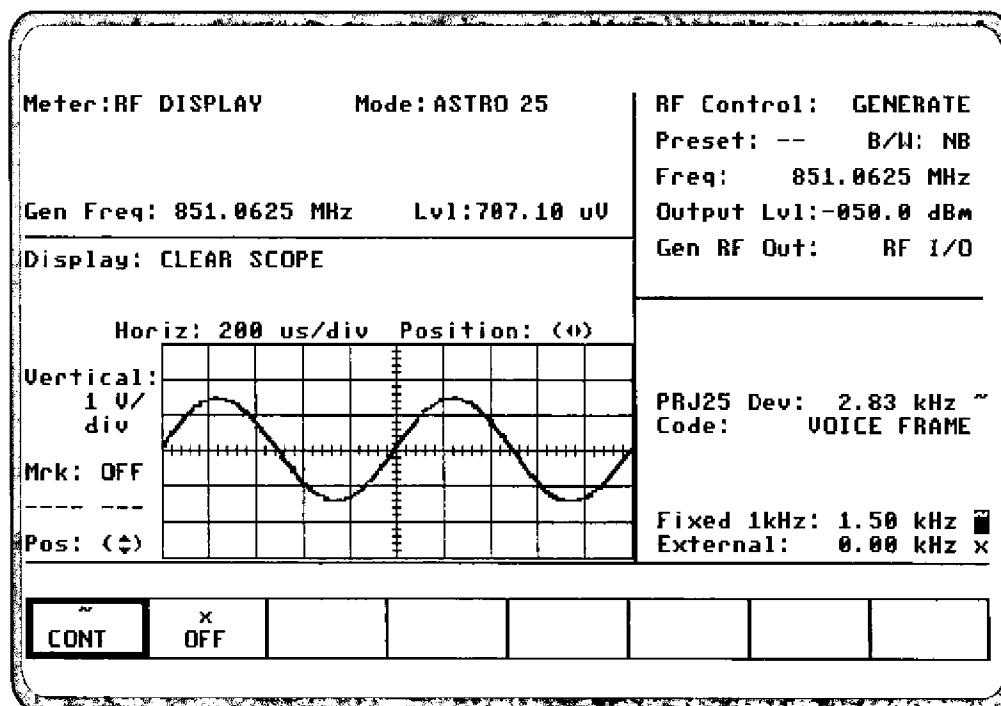

Figure 4-4. ASTRO 25 CLEAR SCOPE Display of Output Modulation
7. Place cursor in the "Display:" field and press **CLEAR SCOPE** softkey. The CLEAR SCOPE screen should appear similar to Figure 4-4.